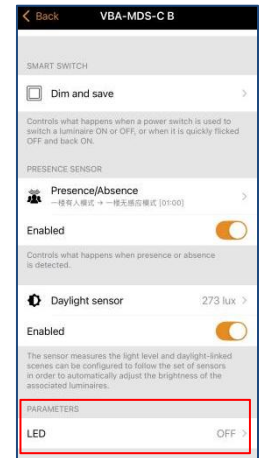

Figure 4
- If required, set the LED parameters to "ON/on" to activate Bluetooth and sensor status indicators (as in Figure 4)